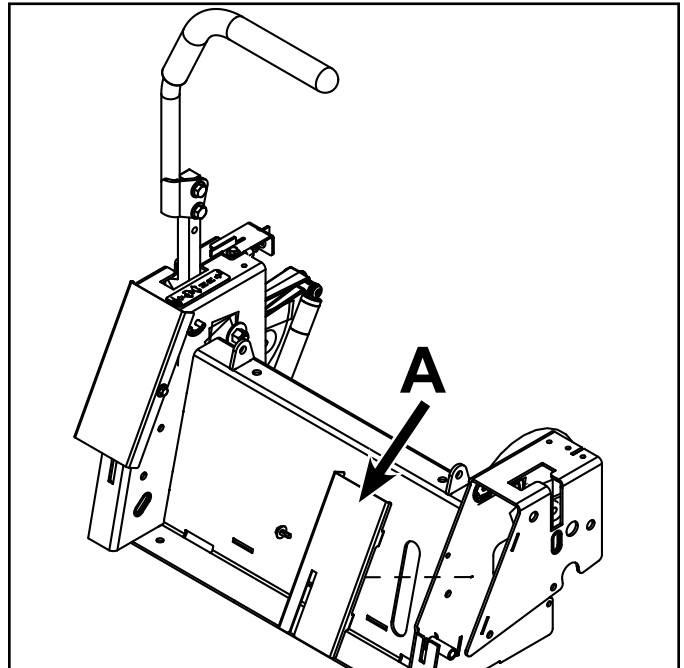

Fig. 062
7. Remove the appropriate control cover (A) (Fig. 062).